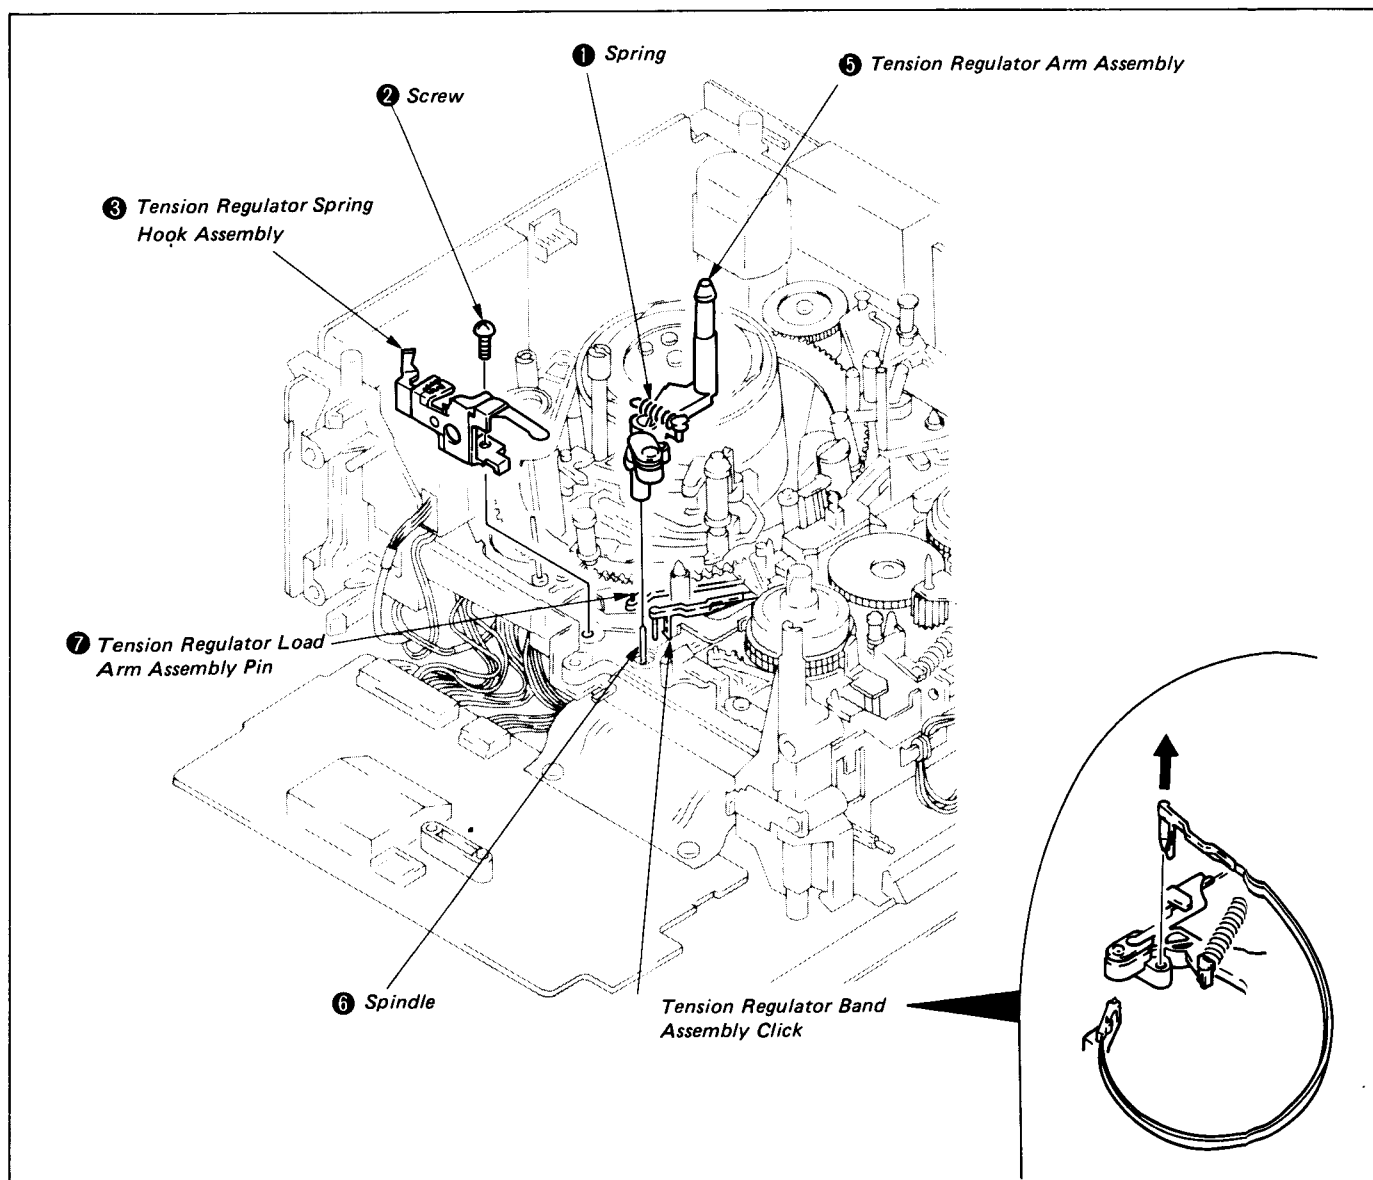

Fig. 1-11
- 3) Remove the spring ①. (Write down the spring hooking position).
- 4) Remove the screw ② and tension regulator spring hook assembly ③.
- 6) Disengage the click ④ of the tension regulator band assembly.
- 7) Remove the tension regulator arm assembly ⑤. (See Fig. 1-11.)
- 1) Oil half a drop of oil on the spindle ⑥.
- 2) Remount the tension regulator arm assembly ⑤ inserting the tension regulator load arm assembly pin ⑦ in the cam groove on the rear side of the tension regulator arm assembly ⑤.
- 3) Reengage the tension regulator band assembly click ④. (Do not touch or deform the band.)
- 5) Remount the tension regulator spring hook assembly ③ and tighten the screw ②.
- 6) Rehook the spring ① in the previous position and lock the screw. (See Fig. 1-11.)